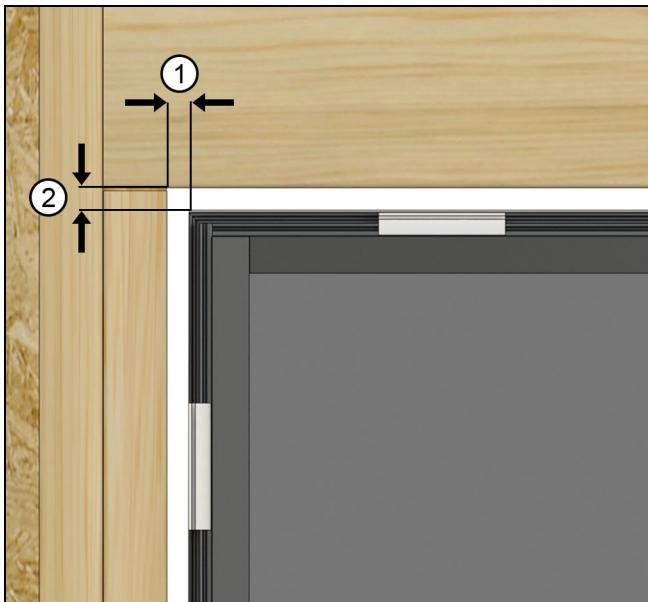

Figure 1 RO Width and Height clearance
1. Rough opening (RO) width may be up to 1 1/2" (38) wider (3/4" on each side) than the outside measurement (OM) of the frame. The RO height may be up to 1 1/2" taller than the OM of the frame. See Figure 1.
**NOTE:** Rough opening (RO) width may be up to 1 1/2" (38) wider (3/4" on each side) than the outside measurement (OM) of the frame. The RO height may be up to 1 1/2" taller than the OM of the frame. See Figure 1.